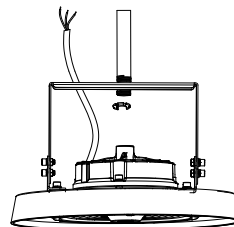

FIGURE 10
3. Re-screw the nuts. (Figure 10)